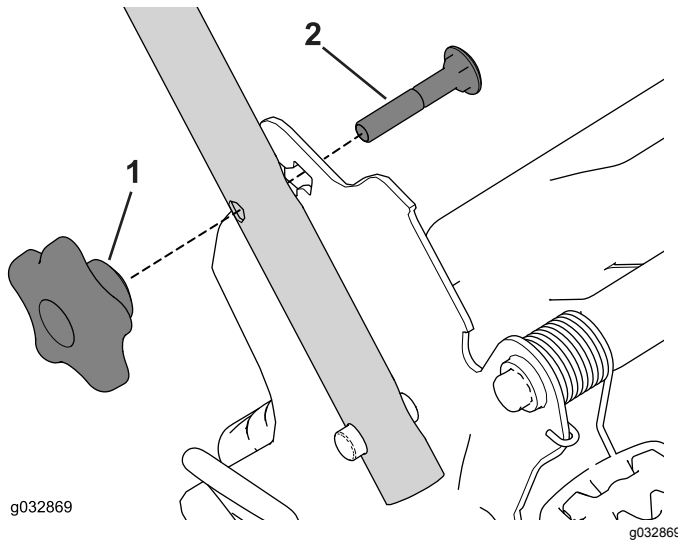

Figure 27
1. Remove and save the 2 handle knobs and 2 carriage bolts from the handle brackets (Figure 27).